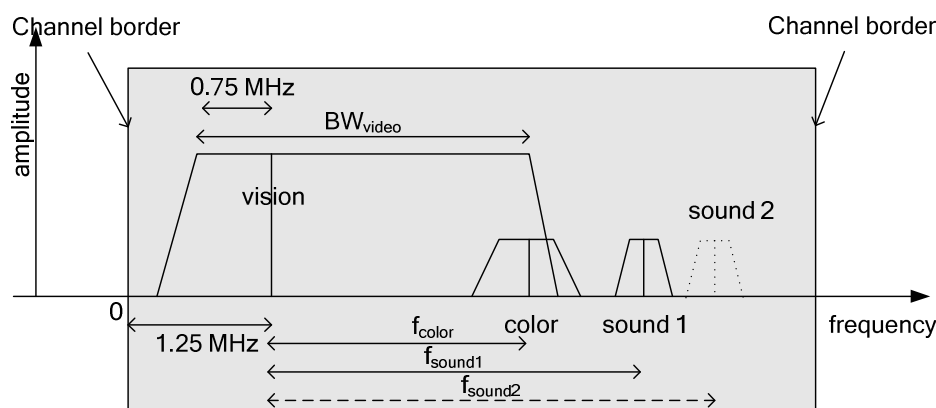

Fig. 2-32 Analog modulated signals in the RF range
For analog modulated TV signals based on PAL, SECAM, and NTSC, Fig. 2-32 shows the situation in principle: the components of the signal, and both frequency and level at the output of a TV transmitter (RF range).
- The vision carrier, indicated in Fig. 2-32 with "vision", is located 1.25 MHz above the channel start. The vision carrier has the highest level and mainly assesses the total power of the channel. It transmits the luminance information and is amplitude modulated. The amplitude modulation is mostly negative (the smaller the luminance signal the larger the vision carrier level), apart from SECAM/L (large vision carrier level combined with a large luminance signal). Only a part (around 0.75 MHz) of the lower sidebands of the vision carrier is transmitted. Therefore it is called "residual sideband modulation". The video bandwidth BW_{video} amounts to, depending on the standard, approx. 5 MHz (e.g. PAL B/G) or approx. 4 MHz (e.g. M/NTSC).
- The color carrier, indicated in Fig. 2-32 with "color", is shifted by f_{color} to a higher frequency value in respect to the vision carrier. The magnitude of f_{color} depends on the standard. The level of the color carrier is by far smaller than that of the vision carrier. Depending on the standard, the signal is analog quadrature amplitude modulated (e.g. PAL B/G) or frequency modulated (SECAM). The color carrier is not considered in the measurements of the Cable TV Measurements option.
- One or two sound carriers, indicated in Fig. 2-32 with "sound 1" and "sound 2", are shifted by f_{sound1} or f_{sound2} to a higher frequency value in respect to the vision carrier. The magnitude of f_{sound1} or f_{sound2} depends on the standard. The level of the sound carriers is by far smaller than that of the vision carrier. Depending on the standard, the sound carriers are frequency, amplitude, or NICAM (digitally) modulated. The sound carriers do not need to possess the same modulation. For example, a combination of a frequency modulated carrier with a NICAM modulated carrier is possible.